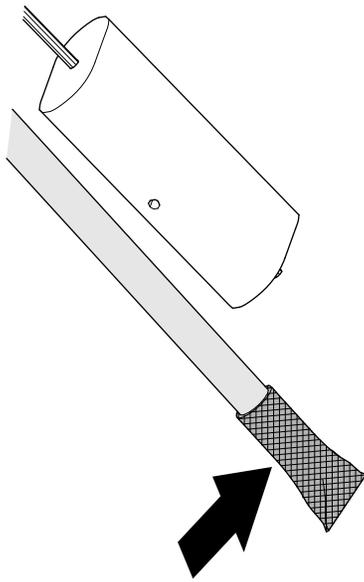

Figure 95
1. Clean the screen at the end of the fuel pick-up tube (Figure 95).